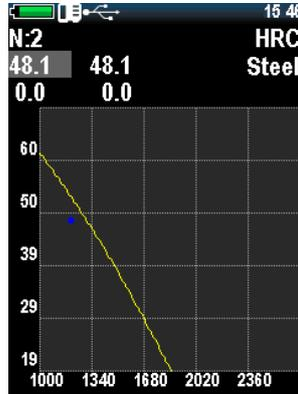

Figure 2.37 – Calibration measurements
- Moving the cursor with  key, select the first line. Make about five measurements on the first reference sample, the device will show the average value of the series according to the current calibration (Figure 2.37). If get obvious error of measurement press  key, and the last measurement will be deleted from the series.